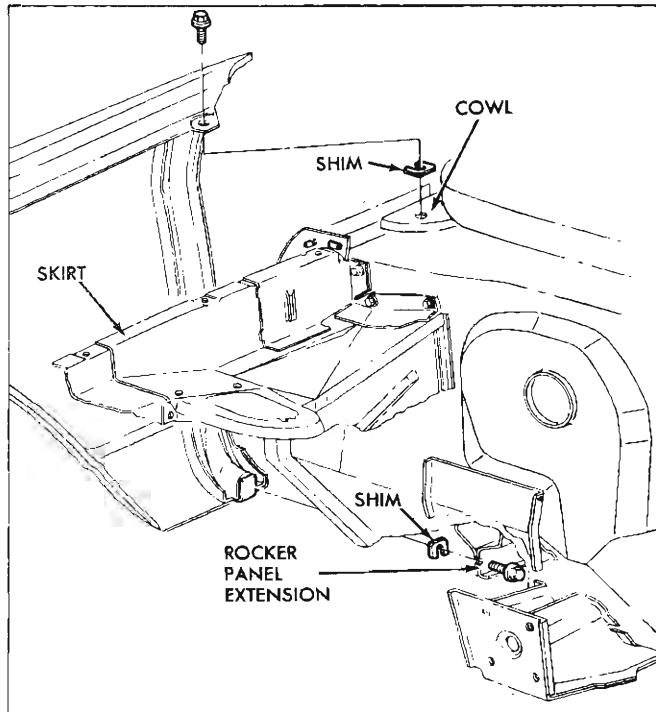

Fig. 33—Fender Mounts
2. Open hood and remove six cap screws joining fender top flange to skirt (fig. 32). Remove, and record number of; shims at first and second cap screw forward of windshield (fig. 33).
5. From inboard side of rocker panel extension, remove one cap screw retaining fender to extension. Remove, and record number of, shims (fig. 33).